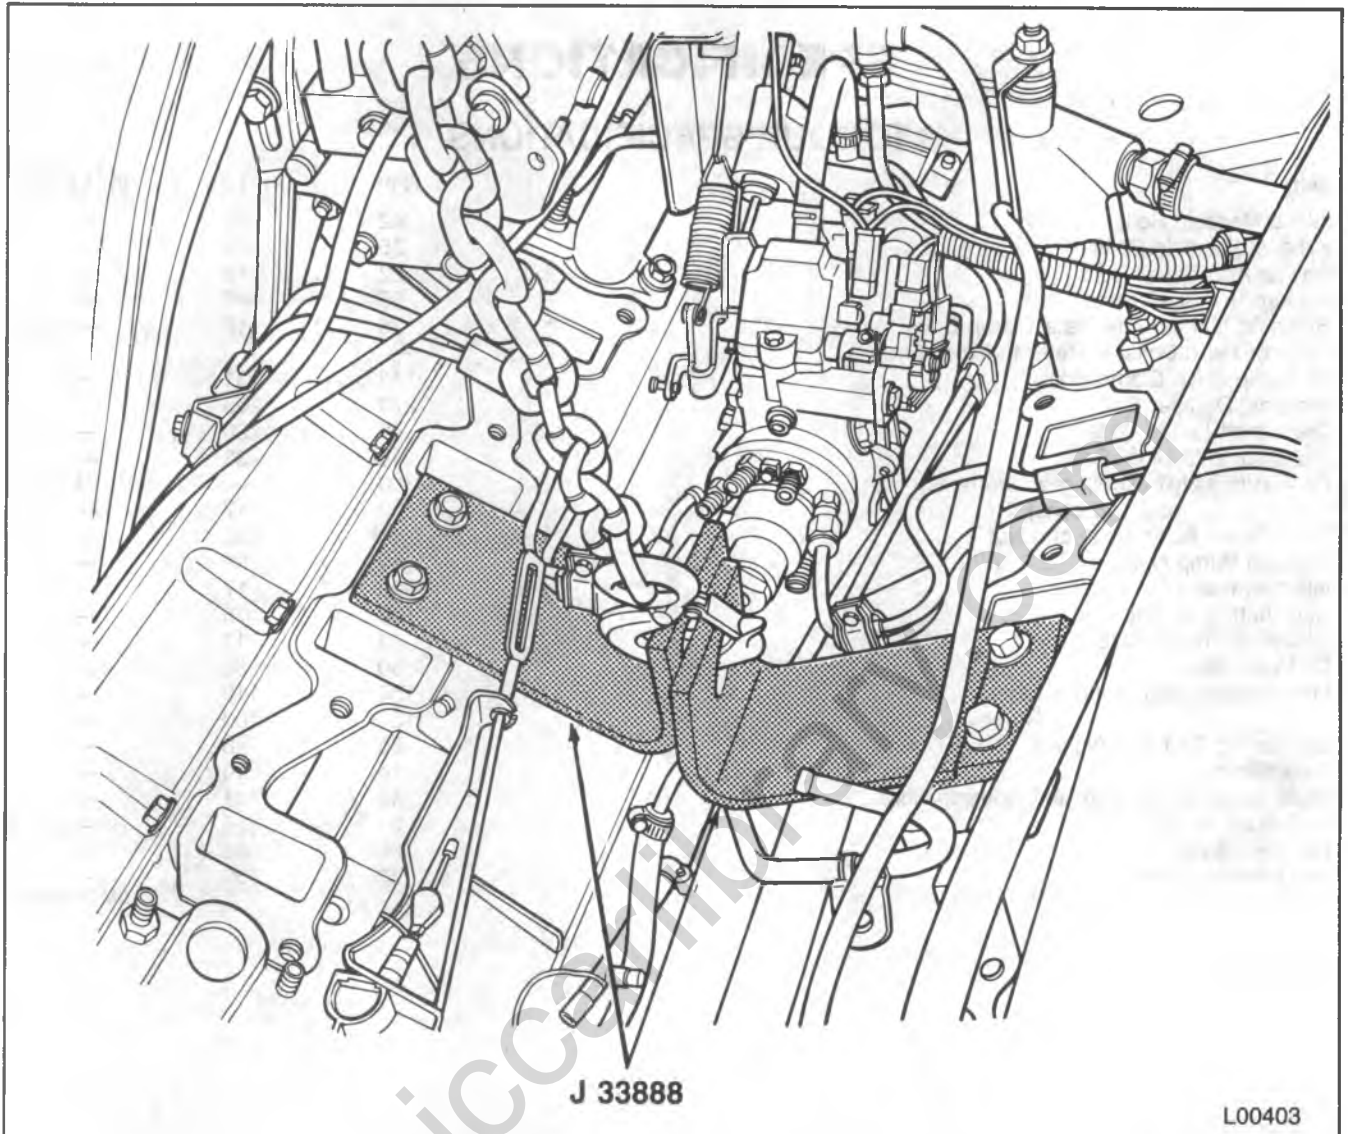

Figure 41 — Engine Lifting Fixture — G-Models
- Attach J-33888 to the center intake manifold bolt holes (figure 41). The two pieces of the tool should extend down into the "valley" between the cylinders.